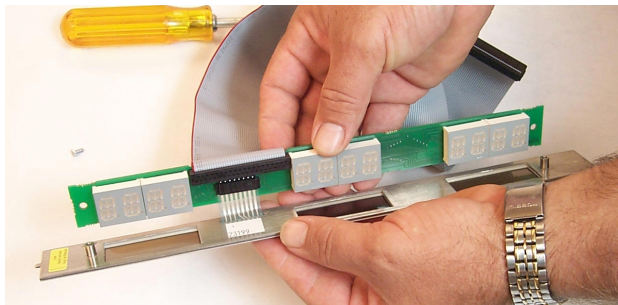

Fig: 6 Separate the display board and the membrane switch.
- Gently separate the membrane switch from the display board. **Fig 6.**